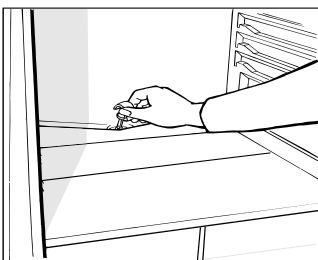

Fig. 3
This appliance defrosts automatically and the condensed water is channelled to the back of the appliance toward the drain installed for this purpose (fig. 3). Here, the heat produced by the compressor will make it evaporate. The only thing you must do is to periodically check and clean the hole of the drain, which is located behind the fruit and vegetable crisper, keeping it clear so that the water drains properly.
- The defrost drain is clear from any blockage (see fig. 3).